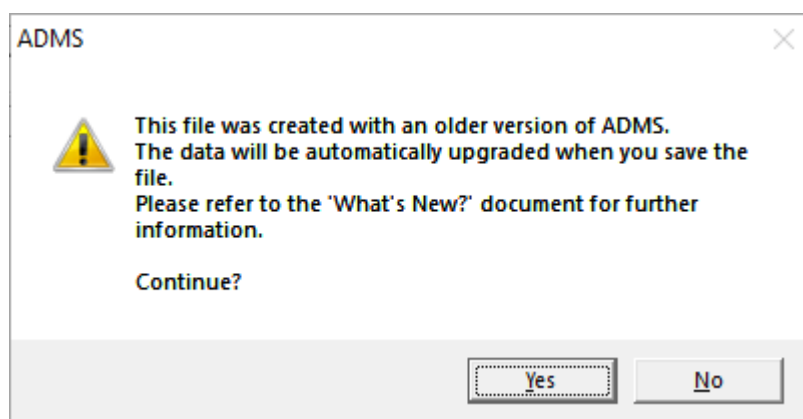

Figure 1: Warning regarding updating .apl from older file format.
1. Open the existing .apl file in the ADMS 6 interface. You should see a warning that the file will be upgraded, **Figure 1**. Click **Yes** to continue.